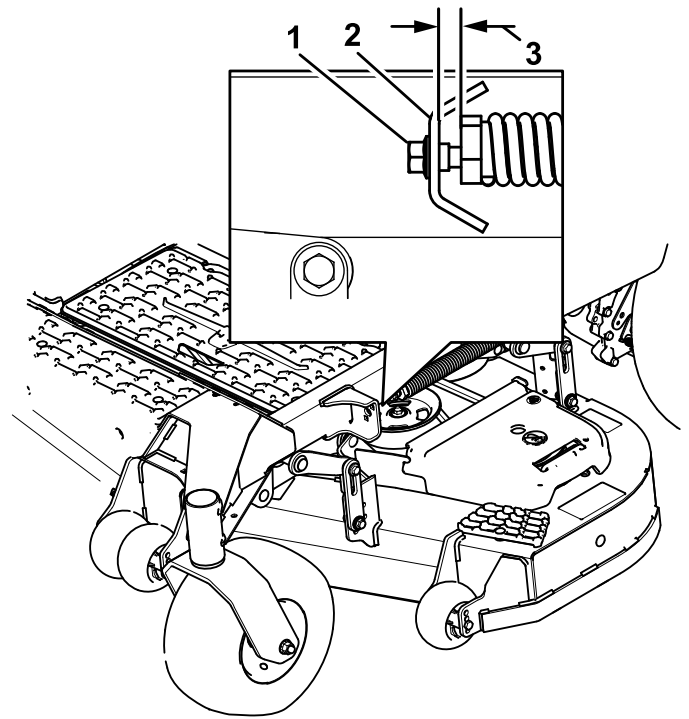

Figure 96
- Slowly loosen the adjusting screw on the lift-assist spring until you can remove the screw (Figure 96).